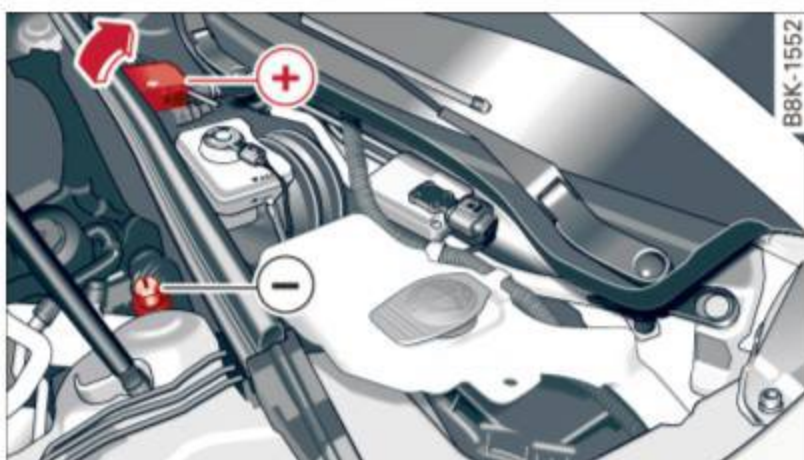

Fig. 195 Engine compartment: Connectors for jumper cables and charger
- ▶ Open the red cover on the positive pole ⇒ fig. 195.